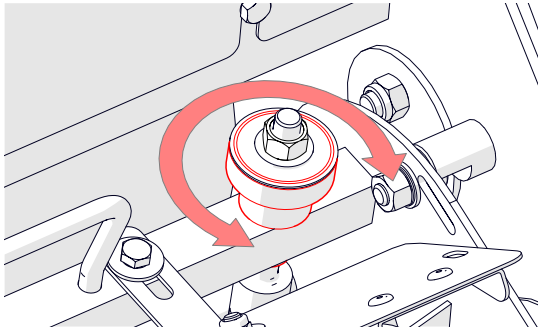

Fig.22D - Tighten/loosen the adjustment nut
6. Manually alter the gap with the adjustment knob (Fig. 22D). Only very small adjustments are required - start with 1/8 of a turn and repeat the paper cut test. Repeat adjustment until the paper cuts cleanly.